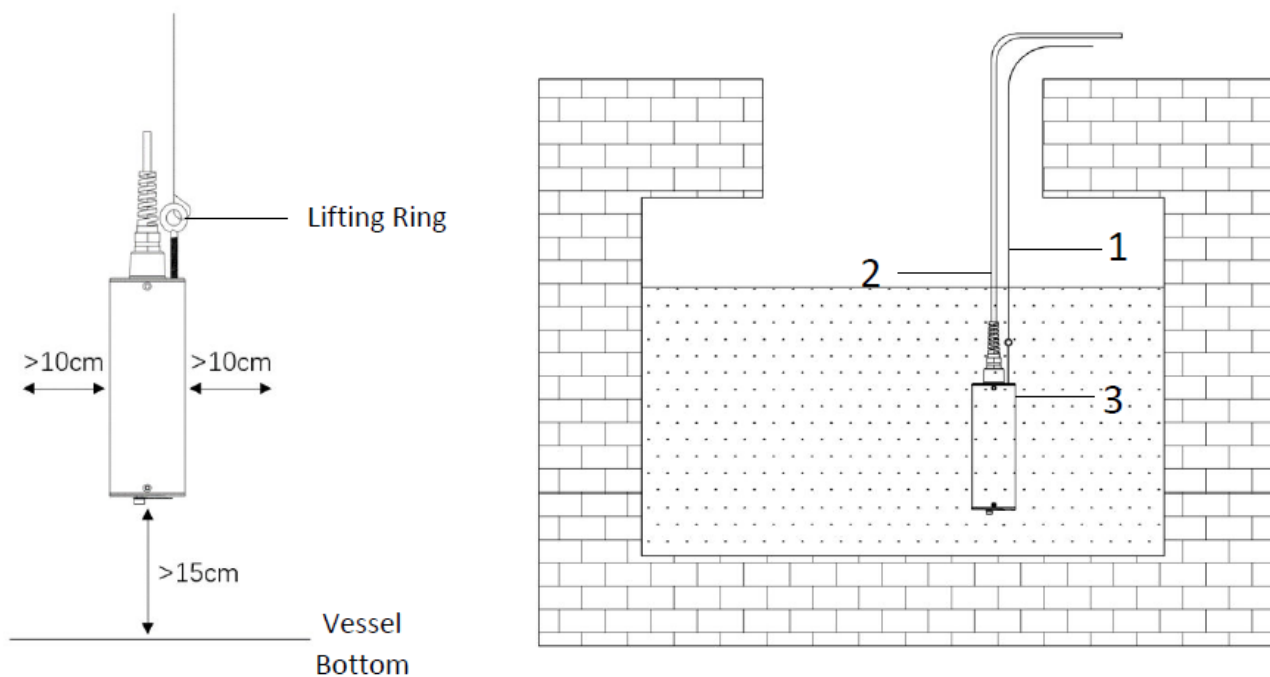

Figure 4 - Submersed Installation Using the Lifting Ring
(2) The LT-63X series sensor should be calibrated with a minimum distance of >15cm from the bottom of water container to the lens of the sensor and a minimum of >10cm from the vessel wall on all sides(as shown in Figure4).
2. insert the sensor into a oversized beaker or bucket(as shown in Figure4). Add bubble-free deionized water or water with <1.0NTU of turbidity container and wait for the sensor reading to stabilize.
2. Remove and insert the LT-63X series sensor into a clean and dry oversized beaker or bucket (as shown in Figure 4) and add the midpoint calibration solution (Please refer to the table in the previous section for the midpoint turbidity calibration range).